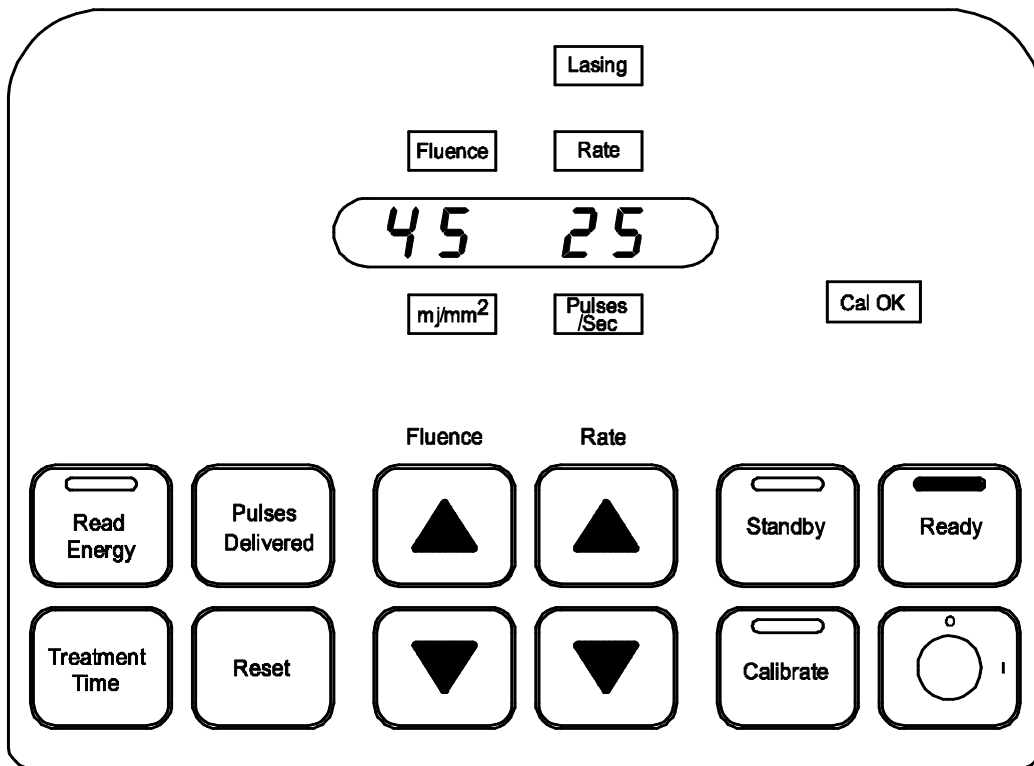

Figure 15
5. Depressing the footswitch causes the red **Lasing** light and red status light on the top of the control panel to illuminate. (Figure 15)